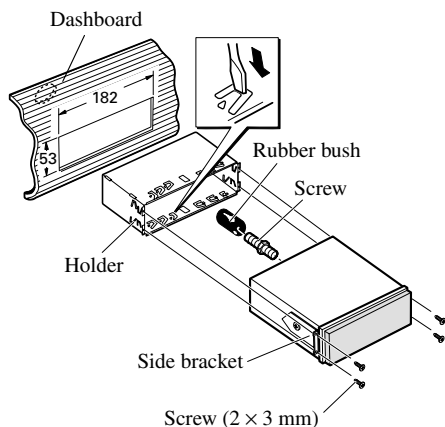

Fig. 15
2. Install the unit into the dash-board. (Fig. 15)